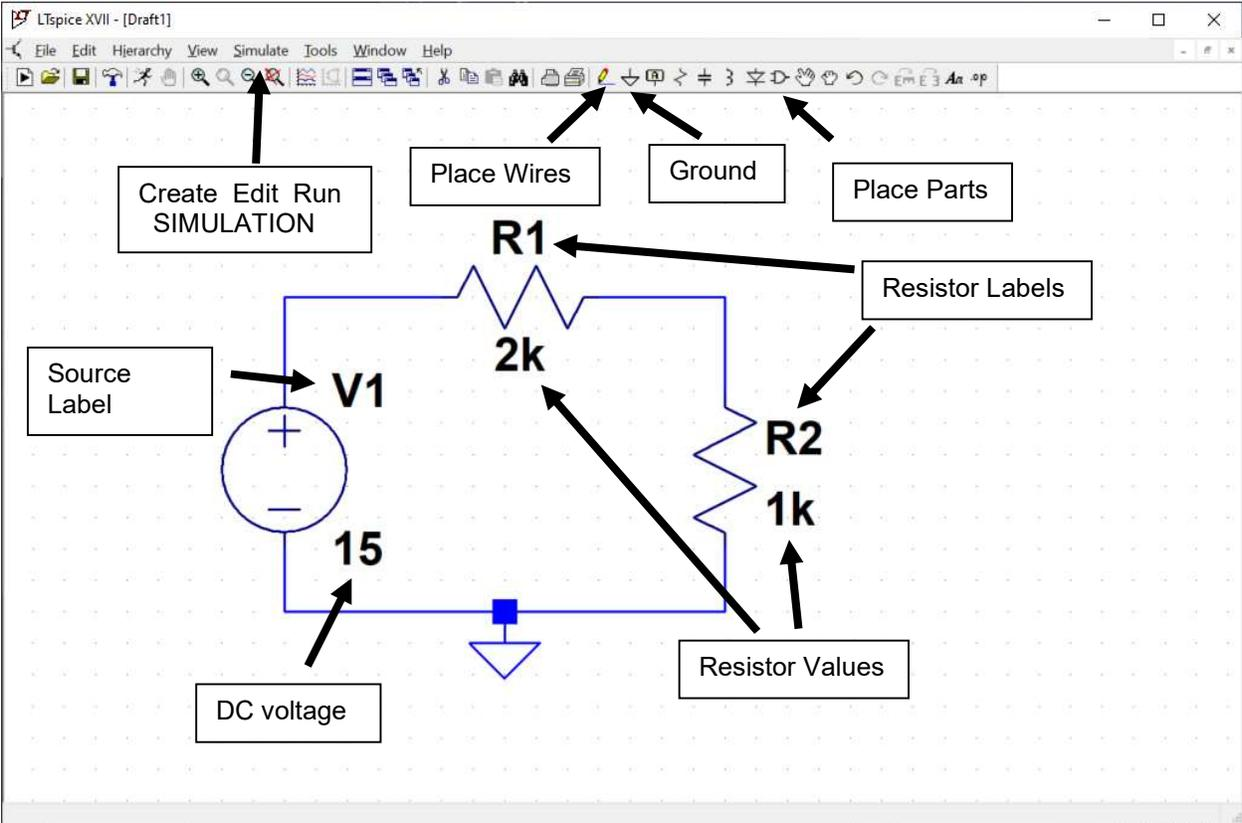
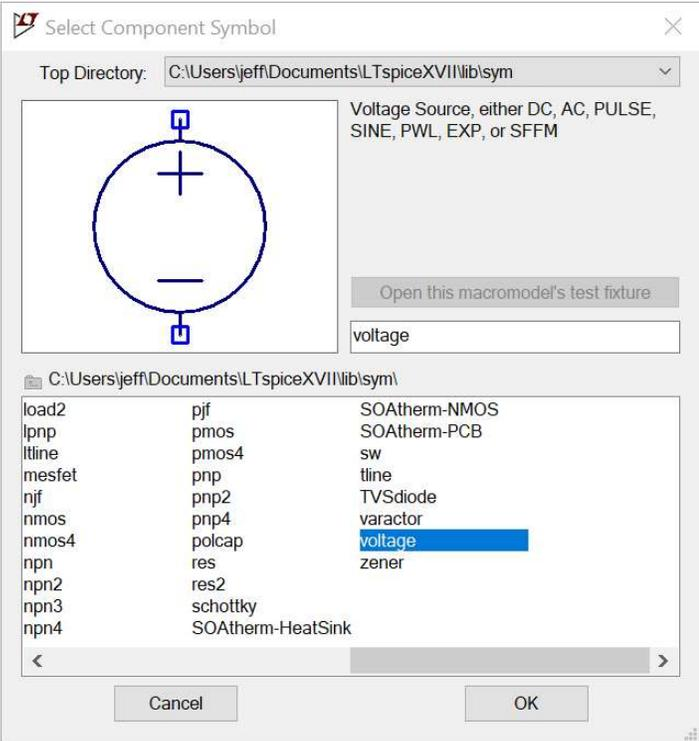
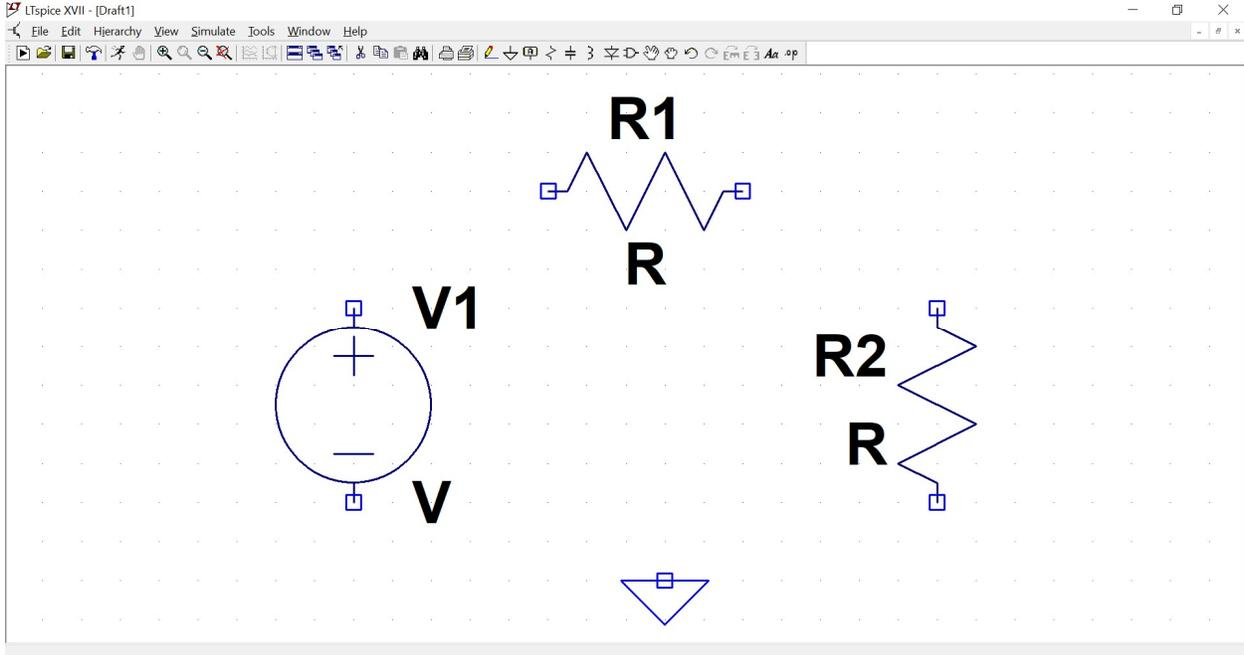

Figure A-3. LTspice Schematic Window (with descriptions)
Figure B-1. LTspice Parts Window
Figure B-2 Circuit Components (and ground reference)
LTspice: The software we will be using to simulate the operation of circuits in this course is called *LTspice IV* which takes information on a circuit and analyzes how it will behave. When placing parts in the circuit, resistors, capacitors, inductors, diodes and wires all have their own symbols in the menu. All other parts are accessed through the “Place Parts” button. Once the parts are placed, their values must be specified. This is usually done by right clicking your mouse on the circuit element or one of its parameters. Once the circuit is complete, the simulation must be setup. This is done through the ‘Simulate’ drop down menu. The example below shows a DC simulation that determines select voltages and currents in the circuit. Figure A-3 contains a familiar voltage divider circuit with common hotkeys and component values indicated.
- Using the hotkeys (Figure A-3, ) , select and place a resistor on the schematic. It should have a label R1 with a value that still needs to be assigned (R). Place a second resistor and it should have a label R2 and also a value that still needs to be assigned. (To rotate a resistor, type ctrl-r while it is highlighted.)
- Again, using the hotkeys (Figure A-3, ) , place a ground near the bottom of the circuit. Note, a ground is not a component, but rather an assigned reference voltage (as discussed previously).
- To place a voltage source, we need to use the Parts hotkey (Figure A-3, ) . In the text box at the center right, type voltage(Figure B-1) and then hit return. Place the source on the schematic. Your circuit should look similar to that seen in Figure B-2.
- In LTspice, implement one of the circuits from experiment 6 (Fig. B-1 in experiment 6 write-up). Using the process detailed earlier, label every node.